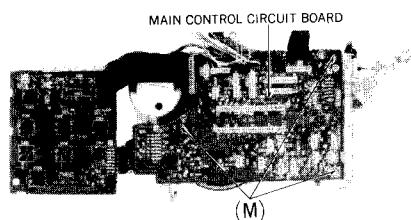

Fig. 8
F Erase current Condition: * Tape selector ... Metal position * Record mode Equipment: * VTVM * Oscilloscope	<p>1. Test equipment connection is shown in fig. 8.      2. Place UNIT into record mode and measure voltage at test point 1.      3. Determine erase current with the following formula:</p> $\text{Erase current (A)} = \frac{\text{Voltage across both ends of R272}}{1 \Omega}$ <p style="border: 1px solid black; padding: 2px; text-align: center;">Standard value: <math>145 \pm 5\text{mA}</math> (Tape selector ... Metal)</p> <p>4. If measured value is not within standard, adjust VR9.</p>  <p style="text-align: center;">Fig. 8</p>